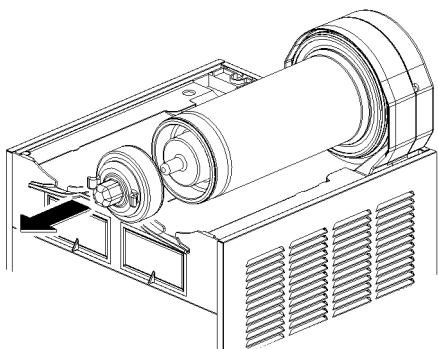

figure 10
- 3** Slide the outer spiral out (see 3) and then Outside magnetic rotor assembly (see figure 10).